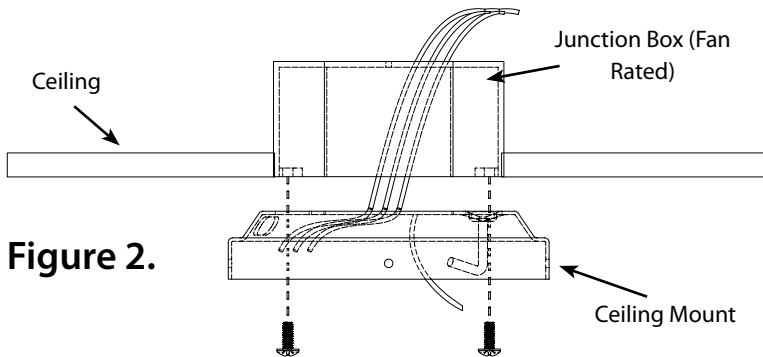

Figure 2.
- Secure the ceiling mount to the junction box *using the hardware supplied with the junction box* as shown in Figure 2.